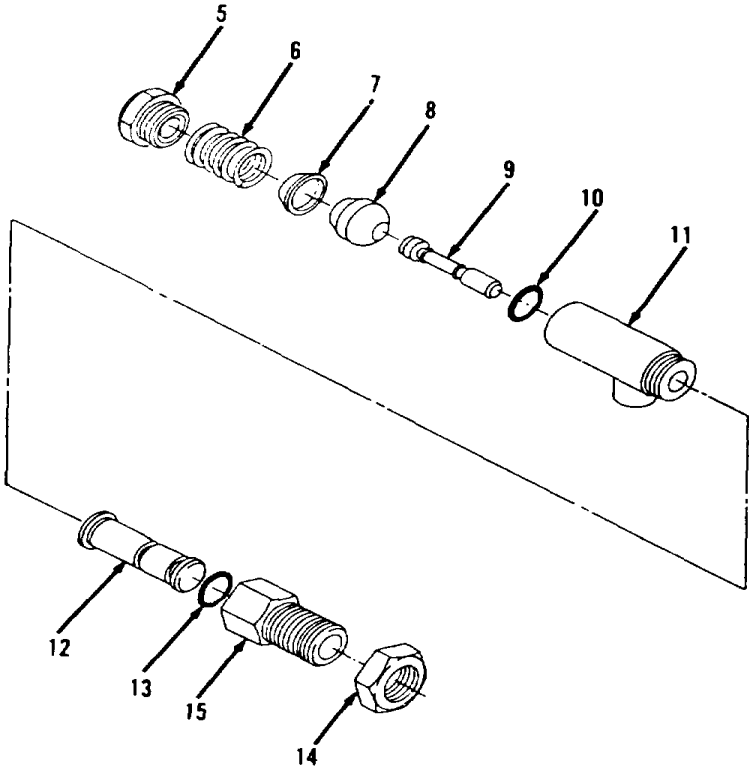

Figure 6-9.
- 1. Remove supply port (5), spring (6), seat (7), valve inlet (8), stem (9) and preformed packing (10) from body (11, Figure 6-9). Discard preformed packing (10).
- 2. Remove body (11), plunger (12) and preformed packing (13) from valve (15). Discard preformed packing (13).
- 3. Remove nut (14) from valve (15).
1. Install nut (14) on valve (15, Figure 6-9).
2. Install new preformed packing (13), plunger (12) and body (11) in valve (15).
3. Install new preformed packing (10), stem (9), valve inlet (8), seat (7), spring (6) and supply port (5) in body (11).